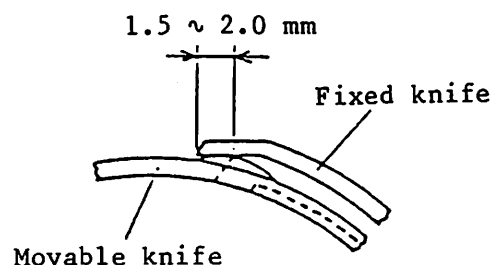

Fig 10.11
- (1) With the air cylinder extended, turn the machine pulley and the movable knife starts rotating. When the movable knife comes to the farthest position, the knife engagement shown in Fig. 10.11 is 1.5mm - 2.0mm (standard adjustment).